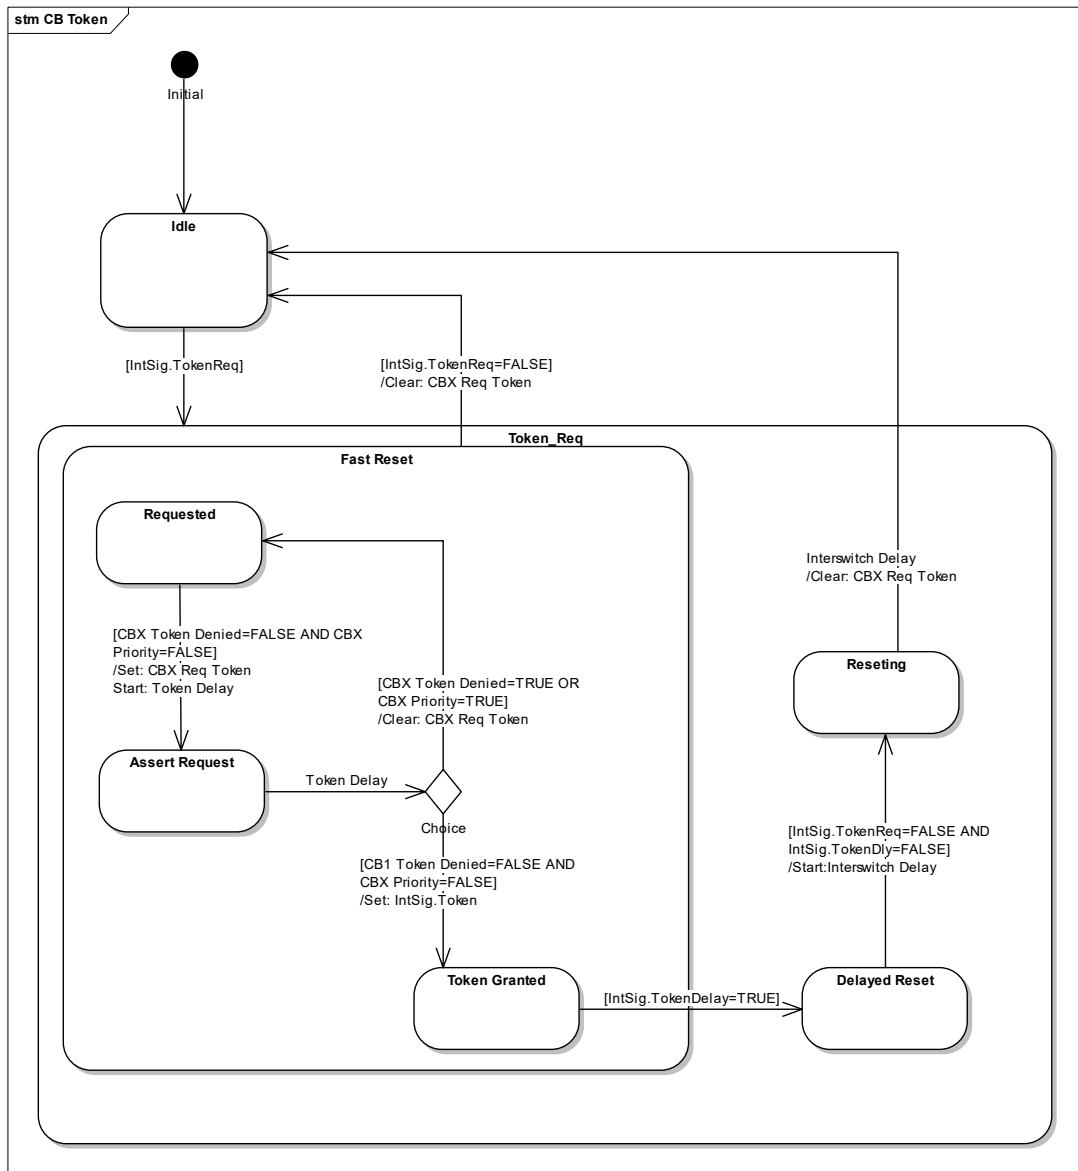

Figure 18: CB function – CB token logic state chart
- Figure 18: CB Token Logic – Implements the token system used to prevent simultaneous closure of mesh circuit breakers.